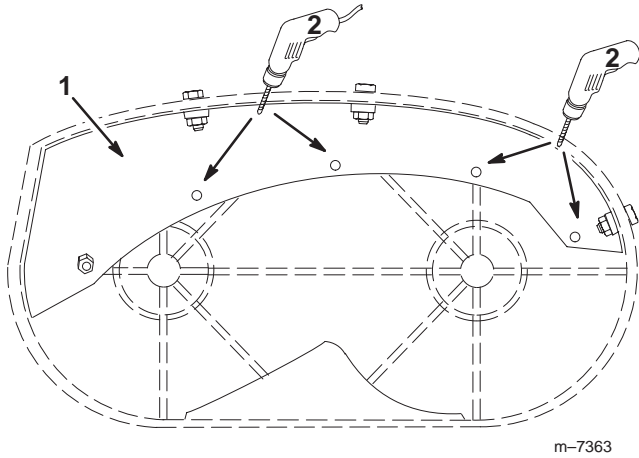

Figure 4
1. Use the four holes in the upper baffle to mark spots in the deck for drilling holes (Fig. 4).